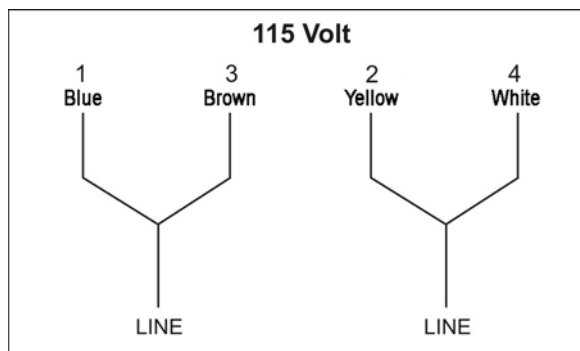

Figure 11
1. To switch the incoming power leads for 230 volt operation, follow the wiring diagram on the inside cover of motor junction box. Similar diagrams are shown in Figures 11/12.